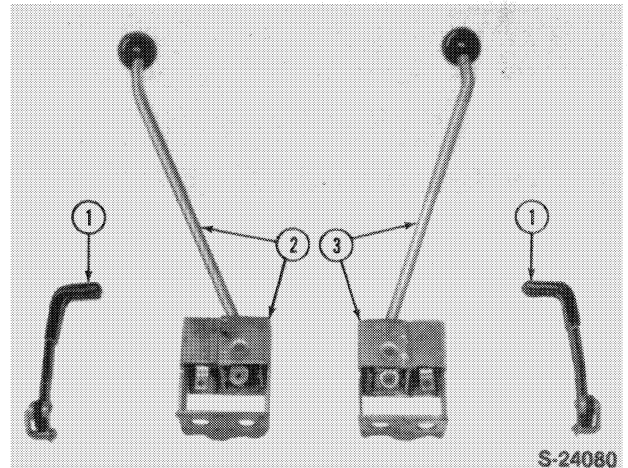

Figure 33
4. Remove the four allen type screws and remove the lever bracket assembly. This procedure is used to remove both lever assemblies, Figure 33.